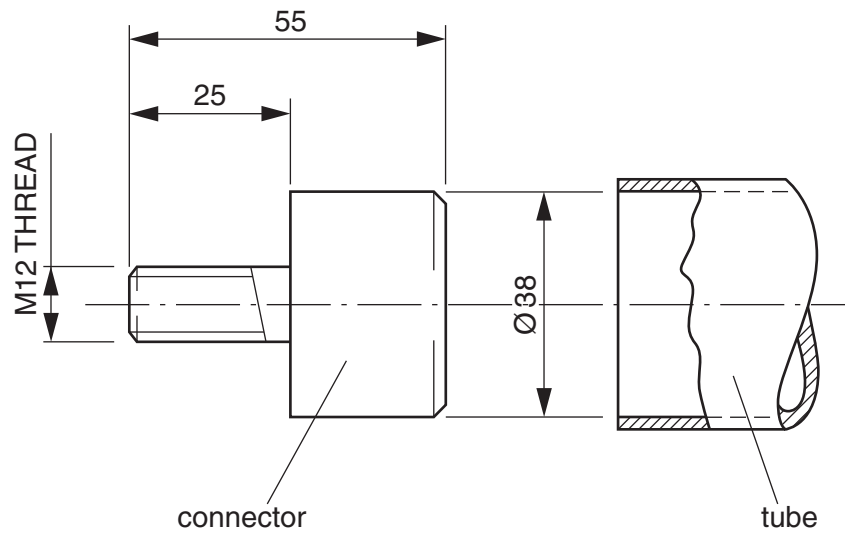

Fig. 3
Fig. 3 shows details of the fixing for the support tube into the parasol base.
- (e) (i) State a **suitable specific material** for the connector shown in Fig. 3. Give **two** properties or characteristics that make the material suitable for this use.
- (ii) Describe, in detail, how the connector shown in Fig. 3 would be manufactured and fixed into the support tube.